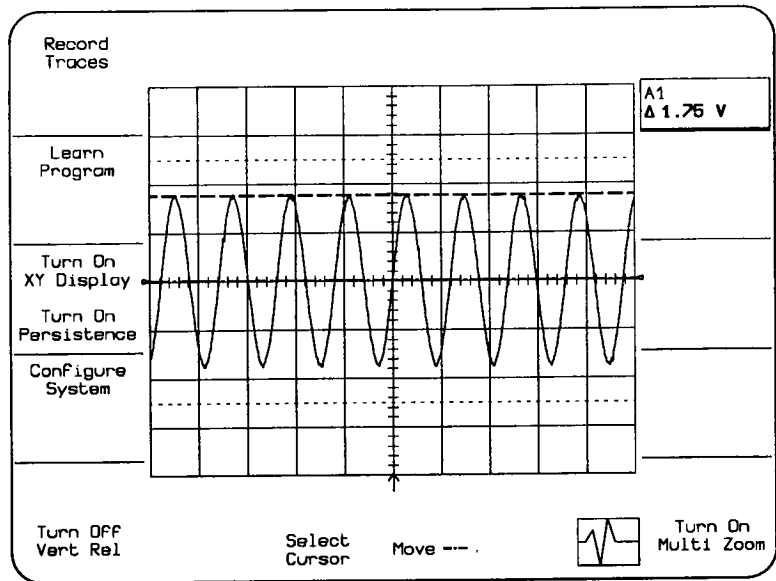

Figure 3.18: Vertical Relative measurement on Trace 1
In this mode the 7200A measures the vertical difference between two horizontal cursor lines on one grid. The vertical difference is displayed under the trace label for each trace on the grid. See Figure 3.18.
- Select Vertical Relative cursors by repeatedly pressing the **CURSOR MEASUREMENTS** key until **Vert Rel** appears in the softkey label in the lower left screen. Two horizontal lines, the cursors, appear similar to that shown in Figure 3.18.